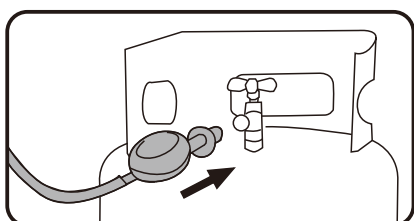

FIG1
1. Confirm that the angle valve of the gas cylinder rotates clockwise to the fully closed position, and put the pressure reducing valve (as shown in Figure 1) into the angle valve of the gas cylinder.